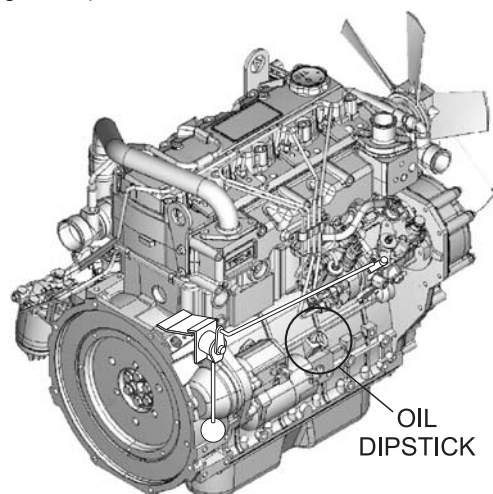

Figure 10. Engine Oil Dipstick
1. Remove the engine oil dipstick from its holder (Figure 10).